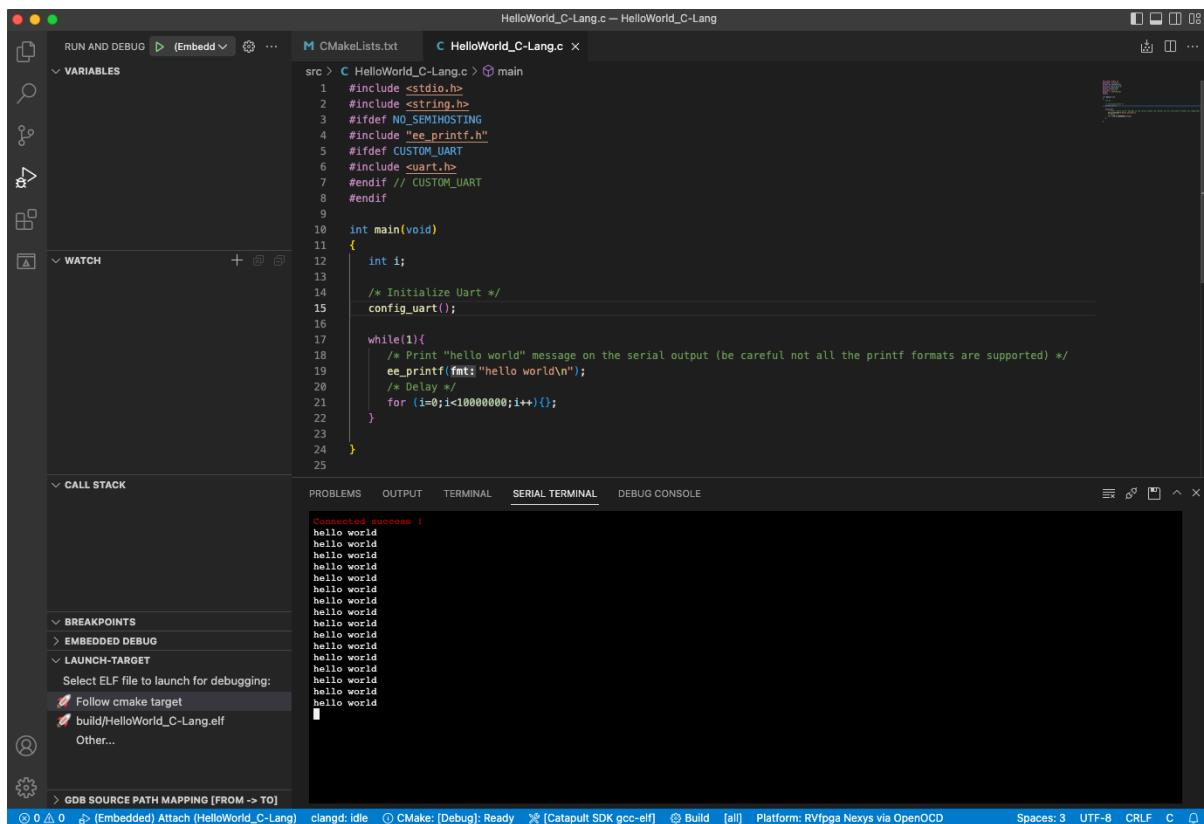

Figure 58. Execution of the program
9. Continue execution by clicking on the Continue button . The serial monitor repeatedly prints the message *hello world*, as shown in Figure 58.